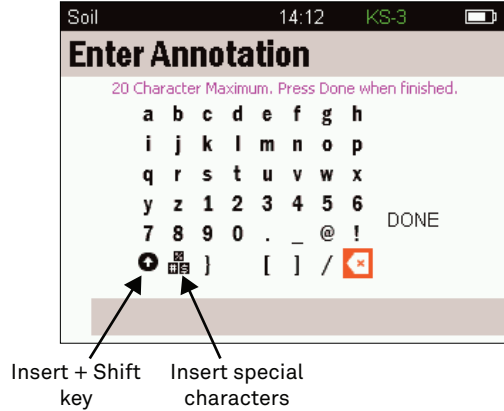

Figure 25 Enter Annotation
- b. Rows 1–12 display information found on the Measurement Finished Screen (Figure 25).